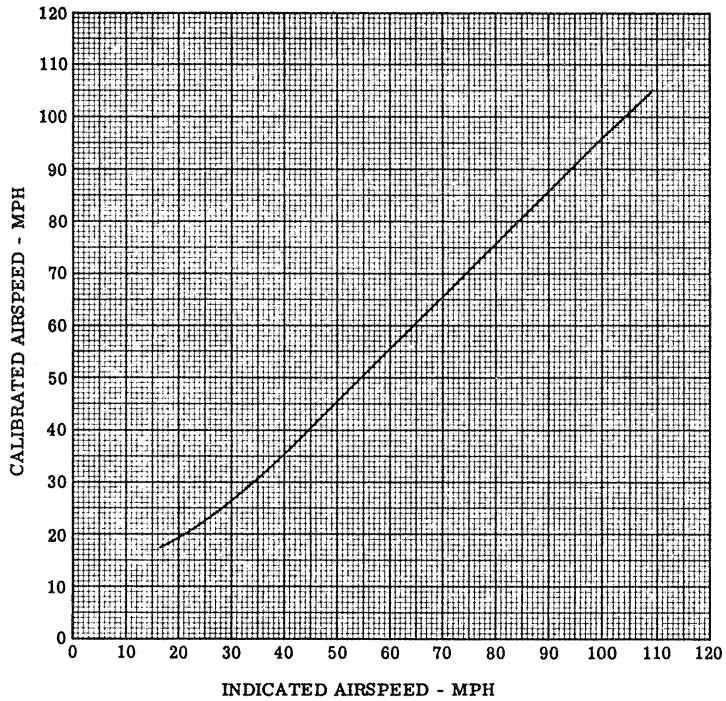

Figure 3-1. Airspeed Calibration Curve -
1. On unmodified aircraft S/N's 0004 through 0058 with the 269A4600-11 airspeed indicator, the performance data in the basic DO-Approved Rotorcraft Flight Manual "a" configuration is applicable except for the Airspeed Calibration Diagram (see Figure 3-1).